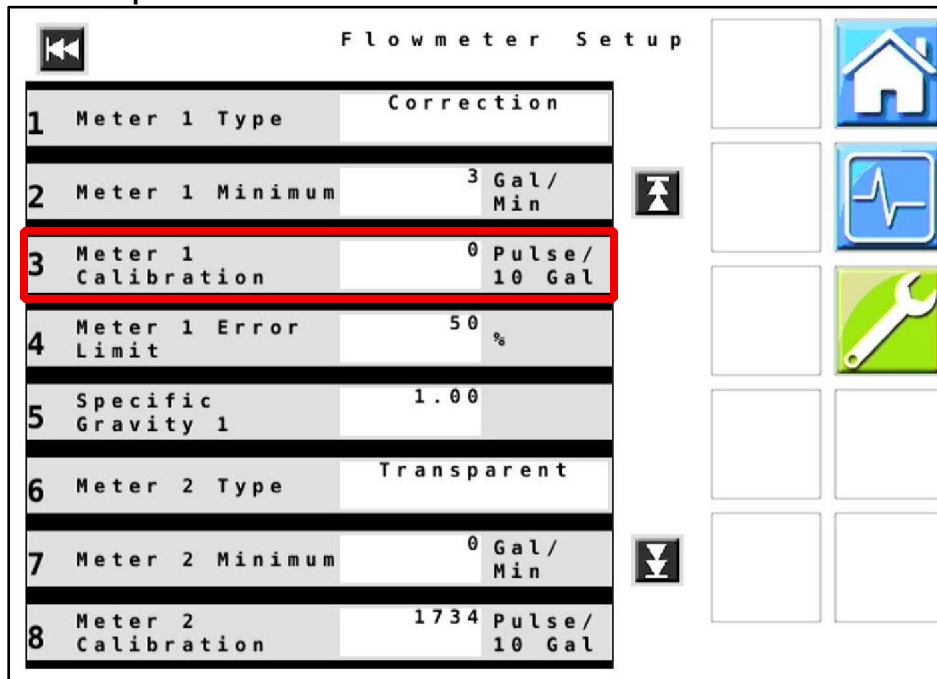

Figure 17 — Flowmeter Setup Page 1
31. **Figures 17 & 18:** Gather and record the Flowmeter Calibration numbers found on the Flowmeter’s tag. The default value is 0 or 1734 depending on software revision. If Machine is equipped with a Fill Flowmeter, enter this number for Meter 2 Calibration.